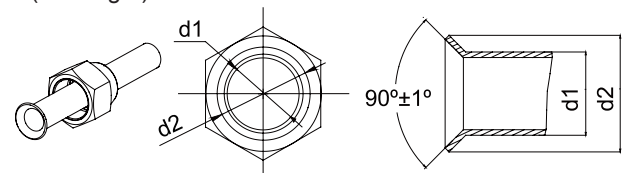

Fig.7
- (1). Cut the connection pipe with the pipe cutter and remove the burrs.
- (2). Hold the pipe downward to prevent cuttings from entering the pipe.
- (3). Remove the flare nuts at the stop valve of the outdoor unit and inside the accessory bag of the indoor unit, then insert them to the connection pipe, after that, flare the connection pipe with a flaring tool.
- (4). Check with the flare part is spread evenly and there are no cracks (See Fig.7)